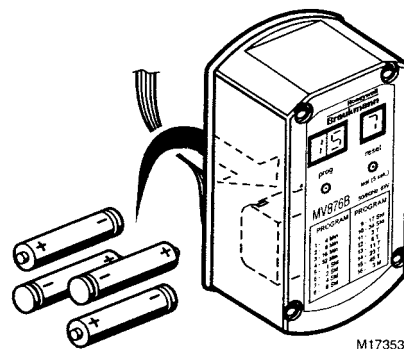

Fig. 9. Installing batteries in the MV876.
3. Insert four AA alkaline batteries (see Fig. 9).